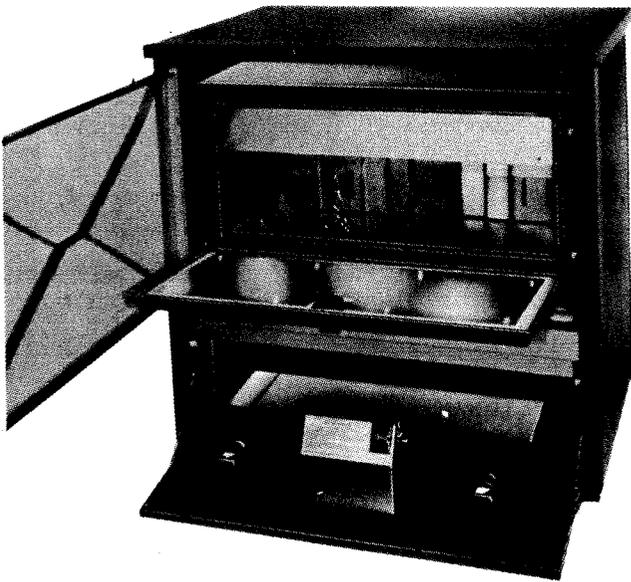

Fig. 24. Autocrat Model FF76 automatic circulating heater.
3. **Autocrat Corp.** (manufacturer), Illinois & Benton, New Athens, IL 62264. The Autocrat FF76 (Fig. 24 and Table 3) has 25-inch wide front loading door and